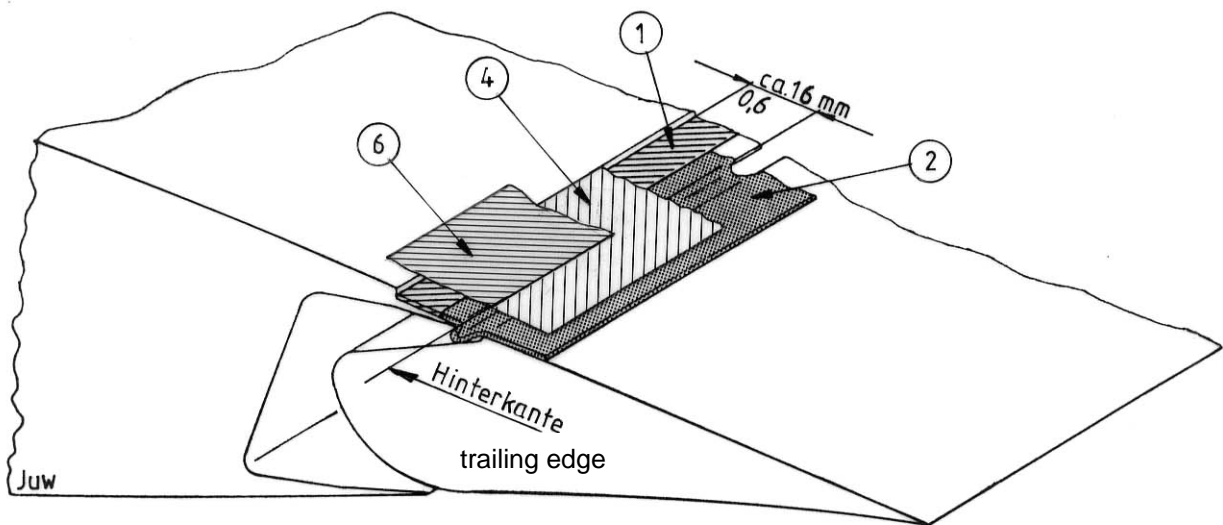

FIG. 6 Horizontal tail upper surface
6.1 If not yet provided, a step must be rebated in the stabilizer as illustrated in Fig. 6 by carefully removing the finish layer down to the outer FRP lamination [approx. 0.5 mm] without damaging the layers.
6.2 Following the instructions under points 4.1 through 4.4 the sealing / slip tape (2) and the plastic fairing strip (4) [Mylar foil, 30-12 mm wide] are applied onto the horizontal tail (Fig. 6).
6.3 Tape the protective adhesive tape (6) [Tesa film No. 104, white, 25 mm wide] over the abutment of the front edge of the plastic fairing strip (4) and the step in the stabilizer (Fig. 6).